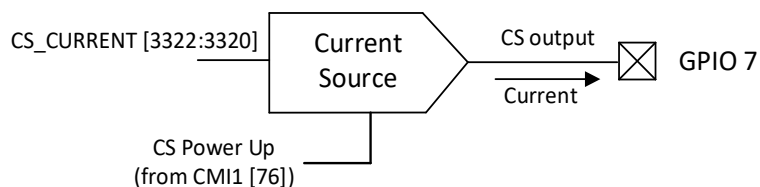

Figure 178. Current Source Structure
The Current Source (CS) is a macrocell that outputs (sources) a constant current to the load connected to GPIO7 (Figure 178). The current value is selected by a register CS_CURRENT [3322:3320] and can range from 1 μ A to 100 μ A (1, 2, 5, 10, 20, 50, 100 μ A).